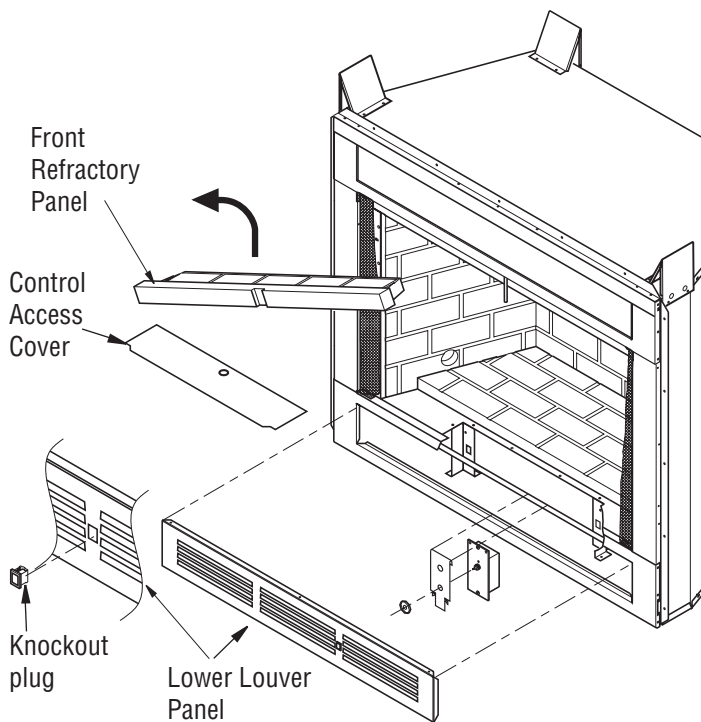

Figure 1: Accessing Blower Compartment (Controls Not Shown for Clarity) Mission B-vent Series
1. The BK blower can be installed in wood burning, B-vent and vent-free model fireplaces. Both the BK and BKT blowers can be installed in direct-vent model fireplaces. Blowers are installed by accessing the blower compartment through the lower louver panel or, on some models, through the control access cover under the front refractory panel (see Figures 1 or 1a). The lower front louver panel can be removed easily, see removing louver panel, page 3 for instructions.
3. Remove knockout plug from louver panel by depressing top and bottom retaining clips (see figure 1 or 1a, page 2).
3. Remove knockout plug from louver panel by depressing top and bottom retaining clips (see Figures 1 or 1a, page 2).